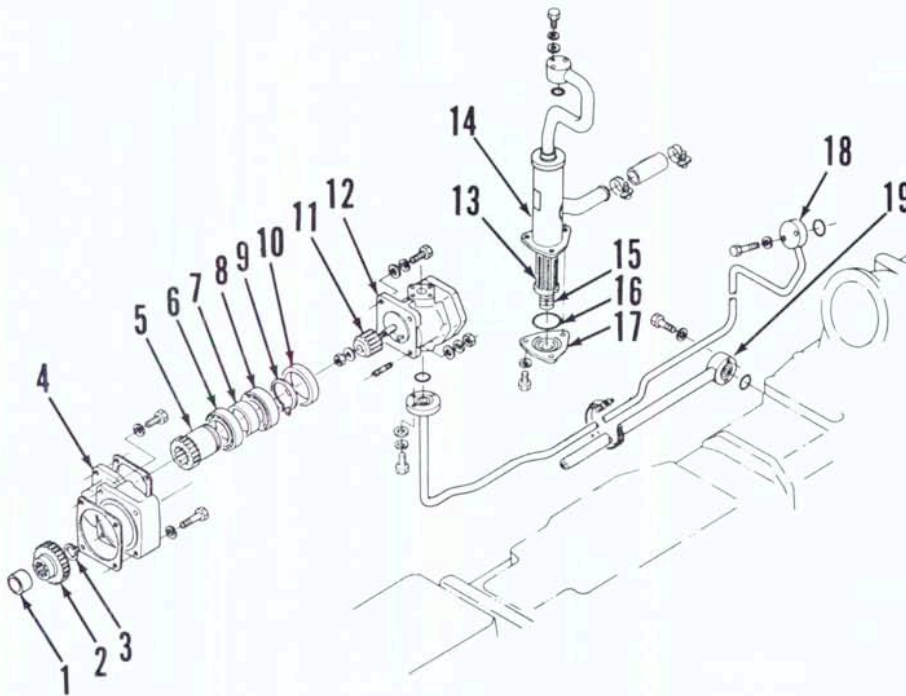

Fig. 152—Exploded view of hydraulic pump drive, pipes and filter used on Models L285, L295, L305, L345 and L355.
On Models L285, L295, L305, L345 and L355, hydraulic filter (13—Fig. 152) is located in filter case (14) on inlet side of hydraulic pump. Filter element should be cleaned after every 300 hours of operation. Be sure to renew element if damaged.